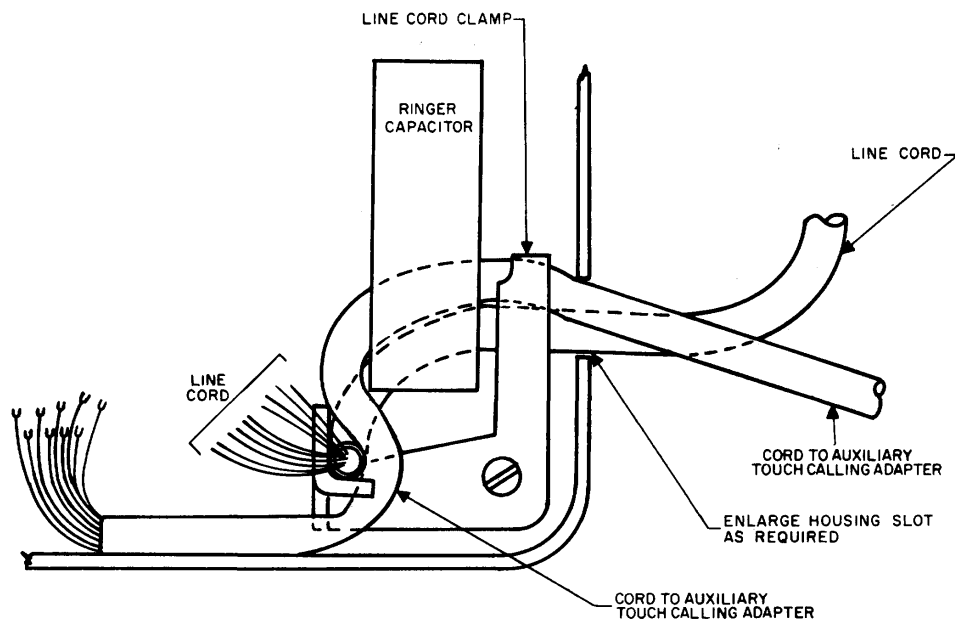

Figure 6. Routing and Securing Cord from Auxiliary Touch Calling Adapter to Type 85 Telephone.
- Route and secure the adapter's cord to Type 85A, 85B or 85C Telephone as shown in Figure 6.